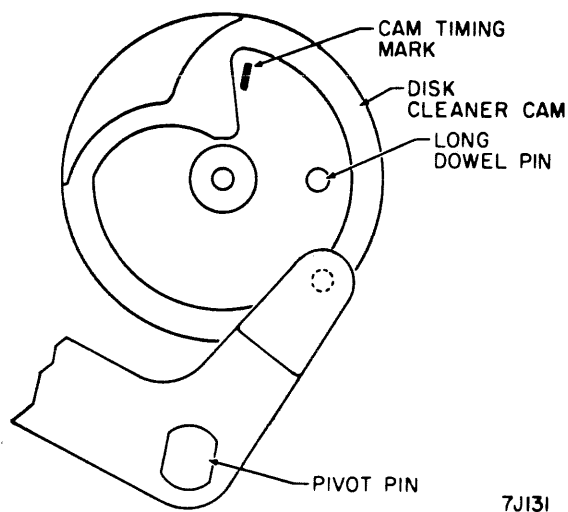

Figure 3-23. Cam Position For Removing Brush Motor Assembly
11. Check brushes for wear (Figure 3-23) and replace if necessary.
2. Manually rotate disk cleaner cam clockwise (from below) until cam timing mark is opposite the pivot pin in cam follower arm (Figure 3-23).